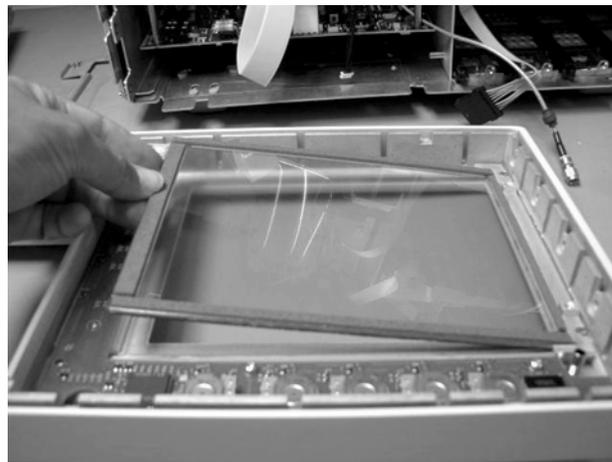

Figure 4-22. Lifting out the Touch Screen
- 3 Lift the touch screen out of the display assembly, as shown in Figure 4-22.